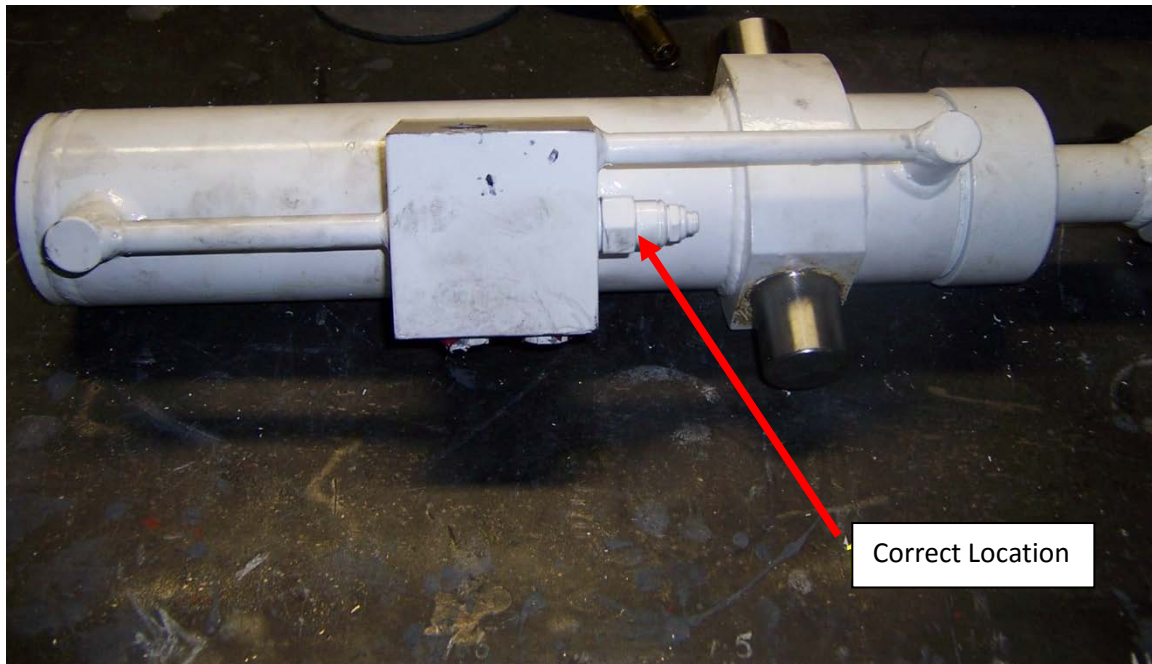

Figure 2 -Correct Counterbalance valve location
**If the counterbalance cartridge is installed as shown in figure 2, the unit may return to service.**